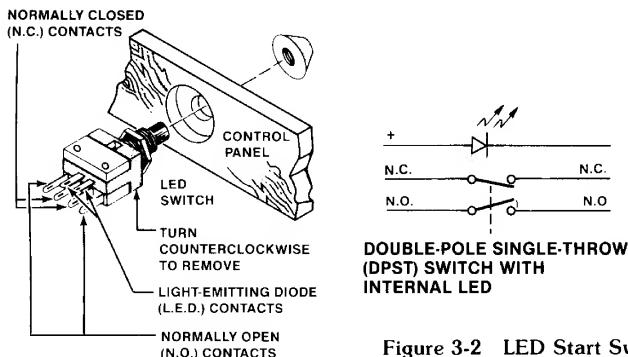

Figure 3-2 LED Start Switch Replacement
4. Connect multimeter leads to appropriate LED switch contacts. (See Figure 3-2 for designation of switch contacts and meter lead placement.)
6. If the contacts do not operate sharply or always remain closed or open, then replace the LED switch as outlined in Figure 3-2.